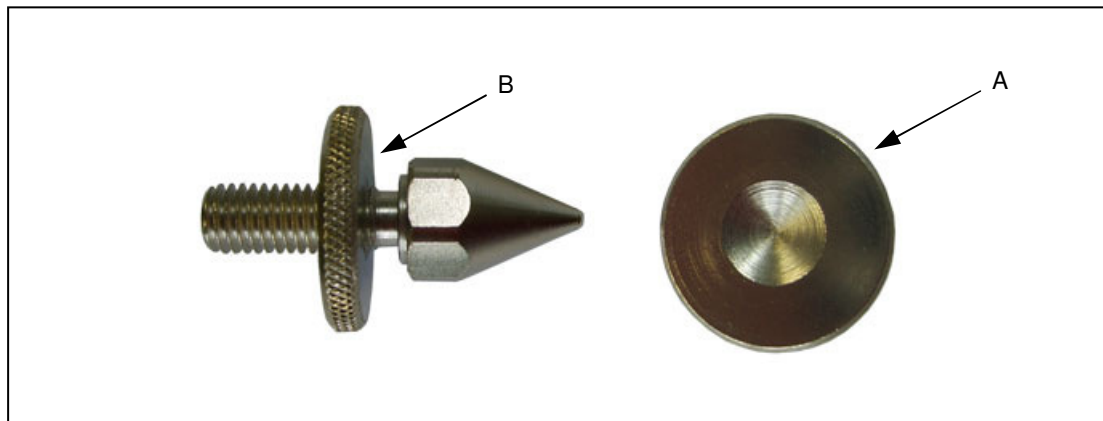
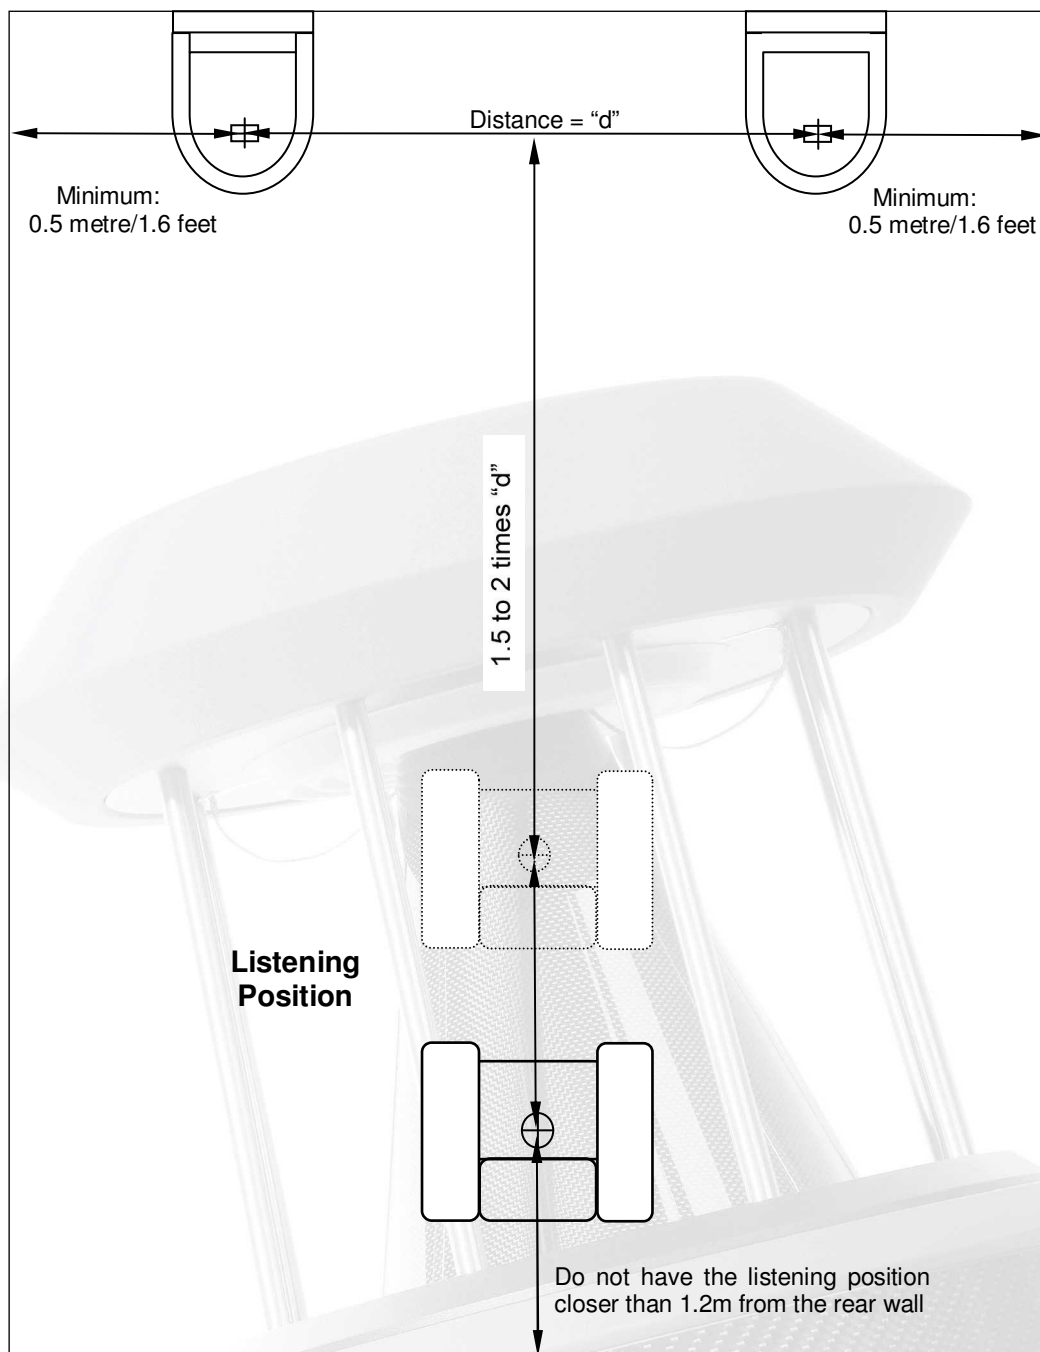

Figure 6. Spike and Washer
Figure 7. Listening Room Arrangement
The base of the PQS-Plus stand is fitted with four spikes of the type shown in figure 6. The spikes are supplied with a special washer, A, figure 6. This is flat on one side and has a recess machined into the other side. It is intended to be placed under the spike, flat side down and used where the user does not want the spike to come into direct contact with the floor, for example when the loudspeakers are to be placed on a polished wooden floor. When the washer is used, make sure that the tip of the spike is located in the centre of the recess.
Set the stands in their initial position in the listening room. Please refer to figure 7 for guidance on positioning. Place a soft clean blanket next to the stand and lay it on its side on the blanket. Set the two spikes at the back and the left hand front spike to protrude approximately the same amount - within 1 or 2mm. If the spike is stiff use a 13mm spanner to turn it. The spike should be screwed in about 10mm to ensure it is firmly located in the stand base. Tighten the locking nuts (A, figure 6) **by hand**. Set the right hand front spike to protrude the same amount, but do not tighten the locking nut. Set the stand back on its spikes.
1. **If the stand can be rocked in the 10 o'clock to 4 o'clock direction**, lean the stand to the left and screw **out** the right hand front spike by the amount of movement you saw. Set the stand back upright and repeat the process until it is sitting squarely on all four spikes. Lean the stand to the left again and lock the nut on the right front spike (A, figure 6), taking care not to change the spike's setting. Lock the spike nut by hand. Do not use excessive force, as this may damage the loudspeaker base plate.
2. **If the stand can be rocked in the 2 o'clock to 8 o'clock direction**, lean the stand to the left and screw **in** the right hand front spike by the amount of movement you saw. Set the stand back upright and repeat the process until it is sitting squarely on all four spikes. Lean the stand to the left again and lock the nut on the right front spike (A, figure 6), taking care not to change the spike's setting. Lock the spike nut by hand. Do not use excessive force, as this may damage the loudspeaker base plate.
Initially, we recommend that the loudspeakers be positioned against the front wall and set facing directly down the room as shown in figure 7. They may be set as much as 2m from the front wall. The closer the loudspeakers are set to the front wall, the stronger the bass will be. The actual distance chosen will depend on the type of bass that the listener requires.